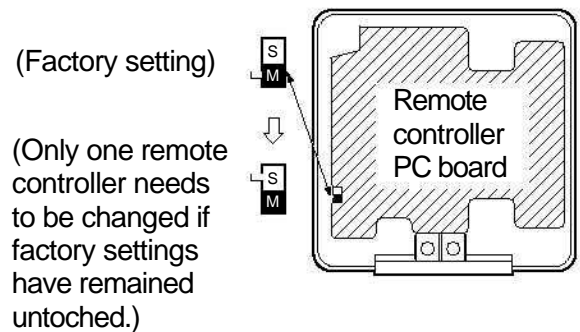

Fig. 27
(2) Turn the **main/sub changeover** switch on one of the two remote controller PC boards to "S". (Leave the switch of the other remote controller set to "M".) (Refer to Fig. 27)